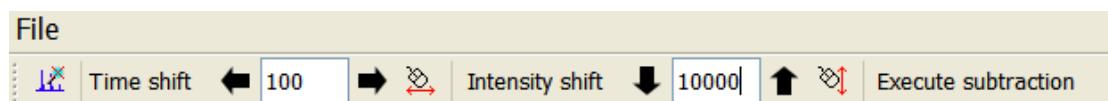

Figure 10.4: The Compare/Subtract Window Tool Bar
- a Tool Bar with various icons and controls, shown in Figure 10.4;